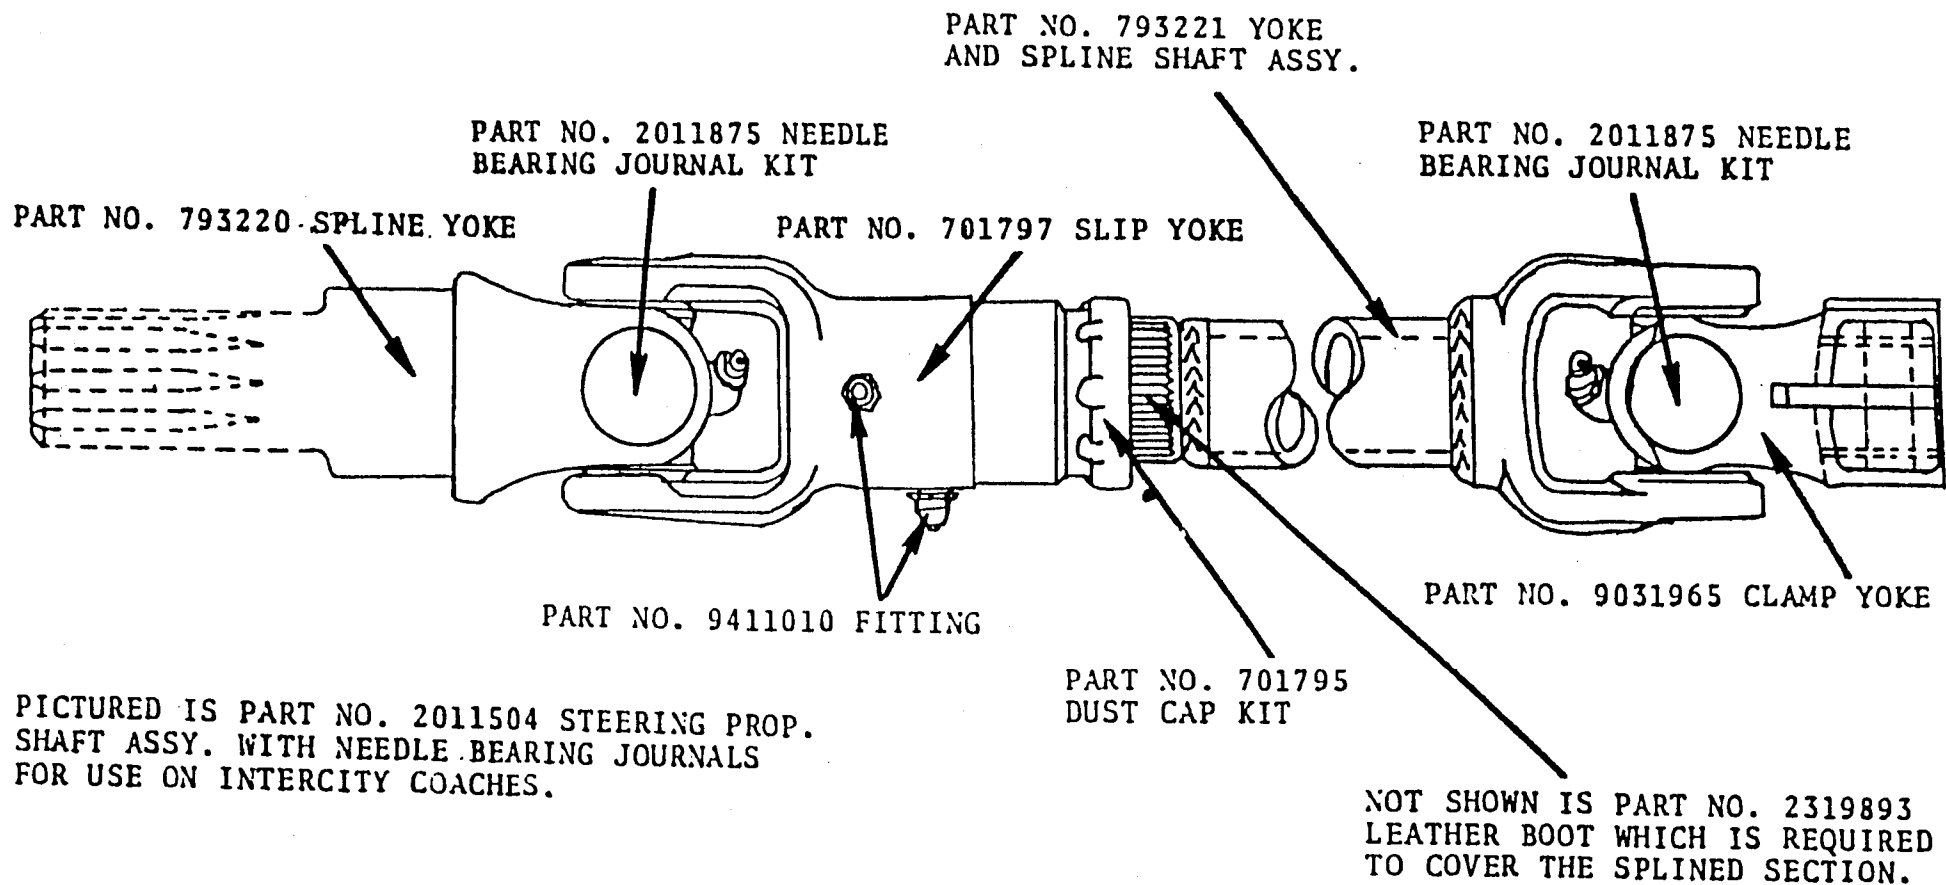

FIG.1
A change has been made in the rear steering prop shaft assembly. Prop shaft #708608 used bushing type bearing journals. As a product improvement, part #2011504 prop shaft assembly has been released for production and service (See Figure 1).
NOTE: For pump break down see Fig.1.
2. Remove the pressure plate from the pump ring, and gently lift the pump ring off the dowel pins. Place the pump ring back on dowel pins with the arrow on the side of the ring facing in the direction shown in Fig 1. Re-install the pressure plate on the pump ring. Place the spring on the pressure plate and install the back housing to the main body. Make sure you check the O Ring on the main body for proper seating. Tighten 3/8" bolts in cross pattern to 25 to 30 ft lb.